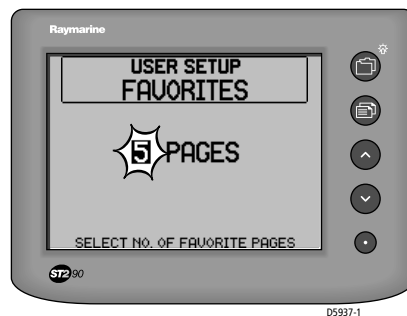

Figure 2-6: Number of Favorite Pages
1. Select the page which enables you to define the number of Favorite pages (see *Figure 2-6*).